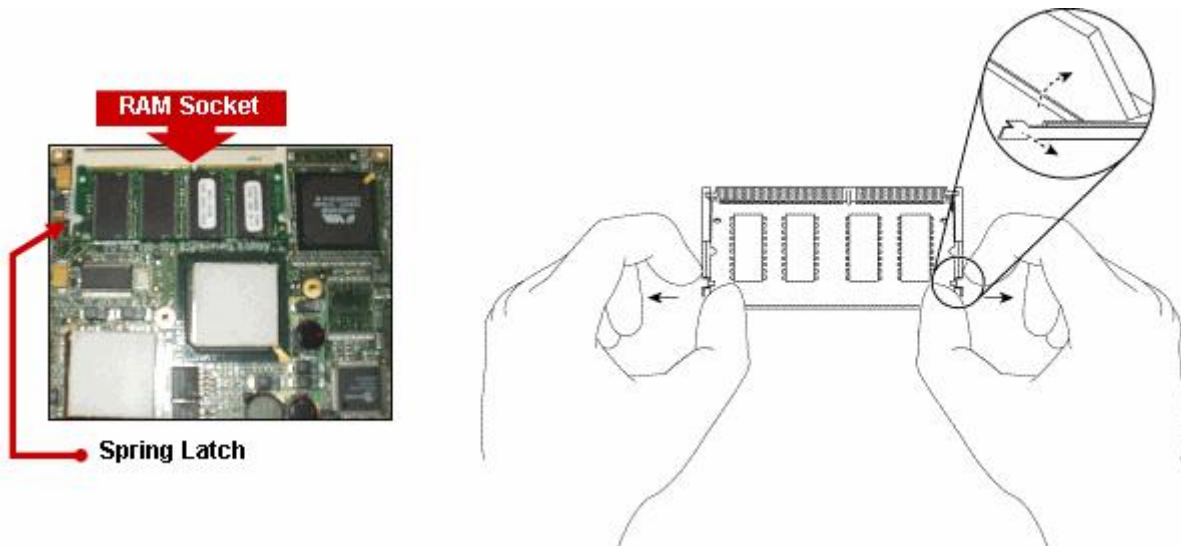

Figure 11: Releasing the RAM Module
- STEP 1:** Use both thumbs to release the spring latches on the RAM socket. See Figure 11 for details.